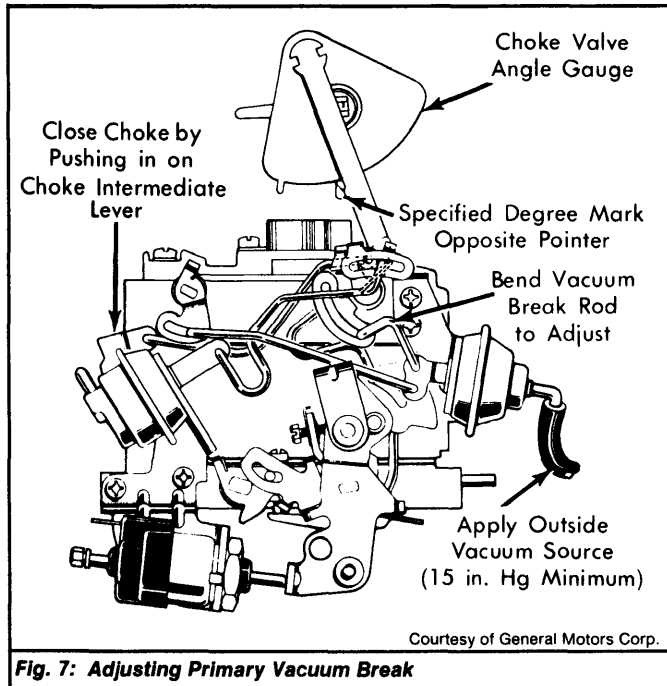

Fig. 7: Adjusting Primary Vacuum Break
1) Using an outside vacuum source of at least 15 in. Hg, seat primary vacuum break diaphragm. Close choke valve by pushing in on intermediate choke lever. See Fig. 7.